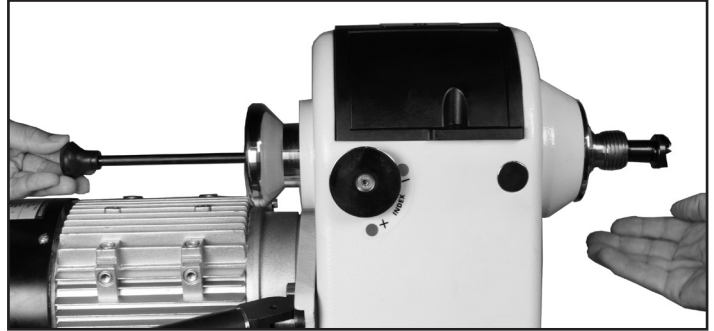

FIG. 17
**NOTE:** Be careful and hold the spur center during this process so it does not fly out onto the floor. Figure 17.